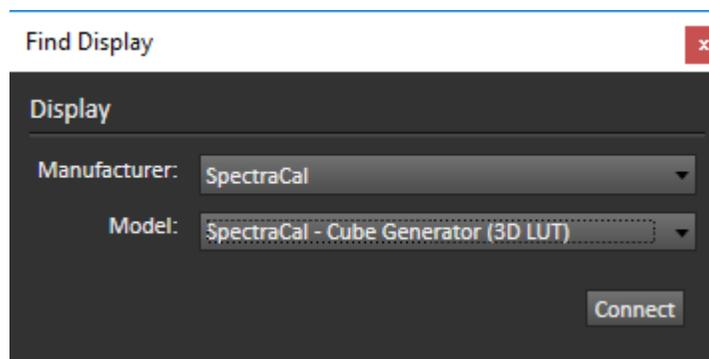

Figure 6. CalMAN Find Display dialog, for connecting to the CalMAN Cube Generator function.
2. On the Find Display dialog (Figure 6), select "SpectraCal" as the Manufacturer and "SpectraCal - Cube Generator" as the Model.